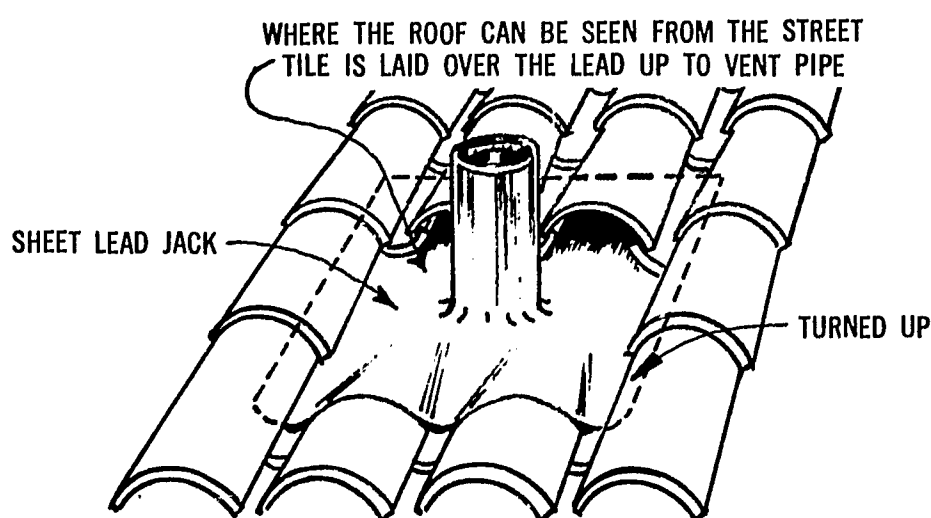

Fig. A-19. Installation of a lead pipe flashing on a tile roof
**Sheet lead.** Lead flashing is used extensively in high-quality roofing work. This flashing may be purchased in standard sizes and forms, but much of it is custom-welded for the specific job. Lead has long been used for flashing because of its malleability; that is, it can be stretched and molded into the desired shape by pounding with a mallet. Lead is especially advantageous for use on tile and slate roofs not only because of its plasticity but because of its lasting qualities, since both tile and slate are costly to remove and replace (Fig. A-19).